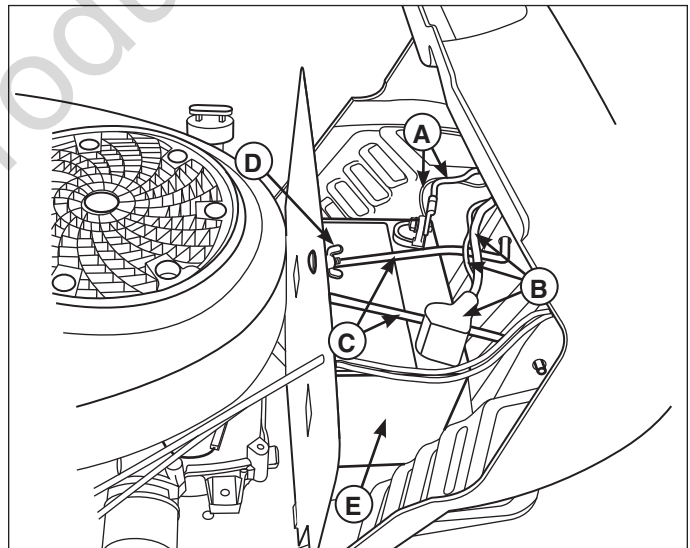

Figure 12
1. Disconnect the cables from the battery, negative cables first (A, Figure 12) then the cover and positive cables (B).
2. Loosen the wingnut and washer (D).
3. Pivot the hold-down rod (C) up and away from battery. Secure to steering tower.
4. Remove the battery (E).
7. Reinstall the battery (E) in the battery compartment. Secure with the battery hold-down rod (C) and wingnut & washer (D).
8. Re-attach the battery cables, positive cables and cover first (B) then the negative cables (A).